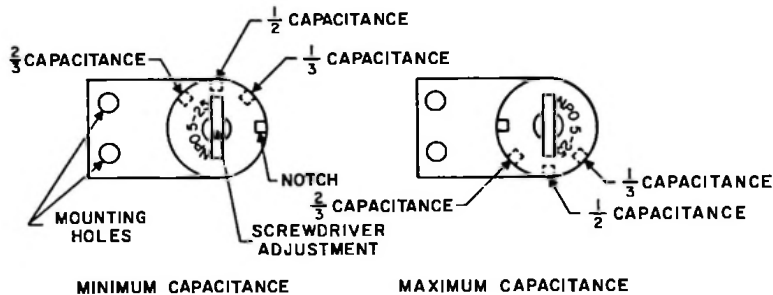

Figure 4-2. Ceramic Trimmer Capacitors
a. Adjust all ceramic trimmer capacitors, including the three below the chassis, to 1/2-maximum capacitance, except as follows: DO NOT change the setting of CARRIER BAL capacitor, and set 3.8-mc trimmers C70, C37, C109, and C130 to two-thirds maximum capacitance. Maximum capacitance of these trimmers occurs when the large square notch is set midway between the two mounting screws. One-half capacitance occurs with the notch pointed directly at the front or rear of the unit. Two-thirds capacitance occurs with the notch turned off the half-point toward the mounting screws. Refer to figure 4-2.